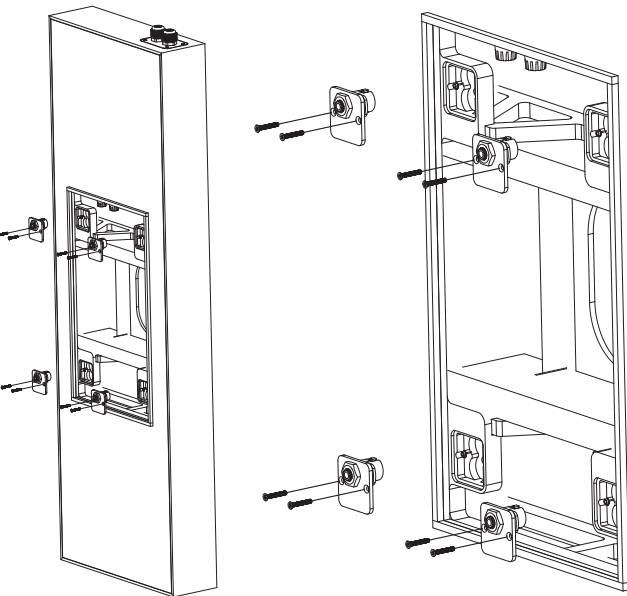

Fig. 2b Re-orient the four brackets if the Back Can is installed with the cable entry at the top
6. Note: If you install the back can with the cable entry at the top, then the four small brackets that accept the speaker assembly screws, need to be rotated through 180 degrees. Undo the 2 small screws, and re-orient each small bracket as shown (Fig. 2b).